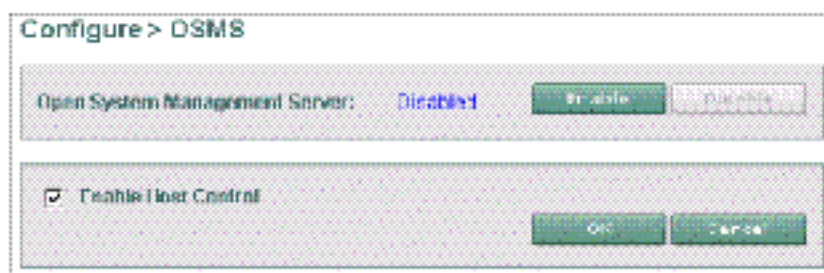

Figure 2-12 OSMS View
1. Select *OSMS* from the *Configure* menu (*Configure>OSMS*). The *OSMS View* appears (Figure 2-12).